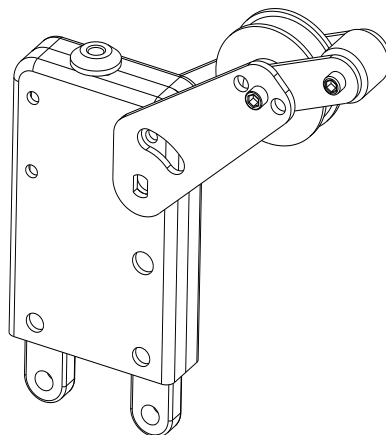

Figure5. Swing arm type anti tilt lock
3.3.2 Hoist model ZLP500/630/800A Gondola is LTD50/63/8A, hoist by electromagnetic brake motor, centrifugal speed limiting device, two speed system and the rope rolling mechanism, enhance the level second machine deceleration in gear transmission, adopts "winding mechanism alpha" forms, the structure shown in figure5.ZLP 500/630/800A for elevator structure diagram.
3.4.1 Swing arm type anti tilt lock (Figure5) is mainly composed of a rope clamp, a sleeve plate, a torsion spring, a swing arm and a roller parts, its working principle is to work on the wire rope tension swing roller arm, the rope is opened, the safety rope can smoothly pass, when suspension platform inclined to limit or work rope breaking, wire rope on work safety lock on the swing arm pressure weakened or disappeared, the safety lock rope clamp and wire rope friction between the torsion spring and has effect on the rope and quickly closed and locked, safety rope, stop suspension platform continues to incline or fall.